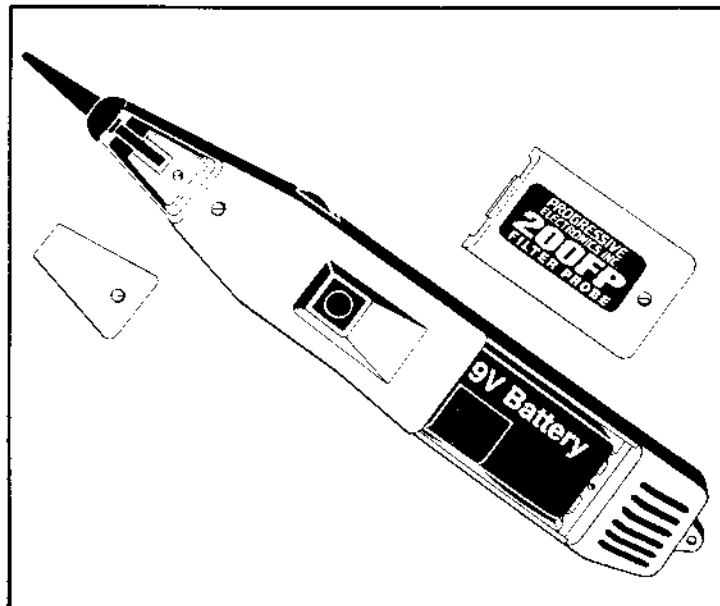

Figure 3.
4.01 The 200FP is maintenance free except for battery replacement. Remove the screw from the battery compartment, replace the 9 volt battery and reassemble. **DO NOT OVERTIGHTEN SCREW.** (See Figure 3)